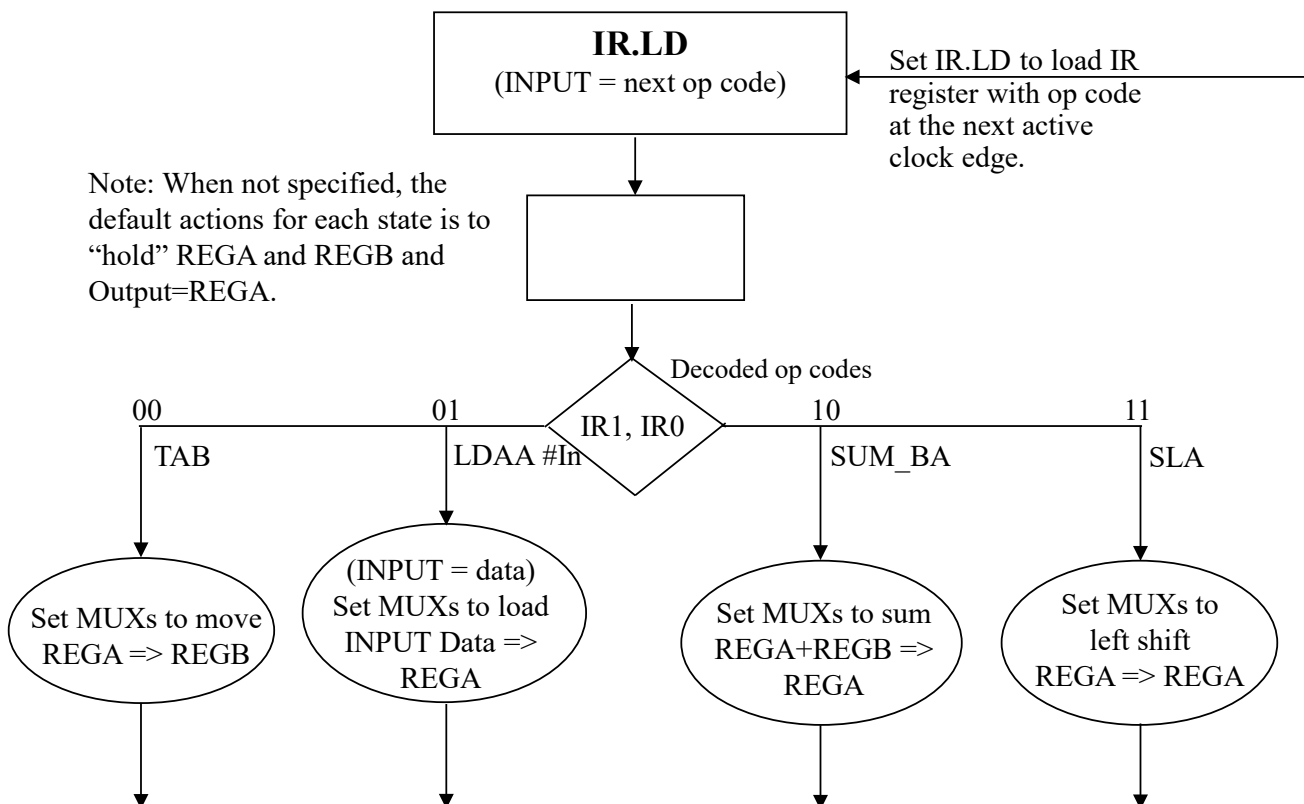

Figure 2. Controller flowchart (**not** an ASM)
The flowchart (**NOT** an ASM) for the controller is shown in Figure 2. All instructions execute in one cycle (plus one cycle to load the IR register). I strongly encourage you to use VHDL for the combinatorial part of the controller.
- Use the flowchart shown in Figure 2 to help you create an ASM chart. The ASM’s outputs include the MUX select signals (instead of the description of actions).